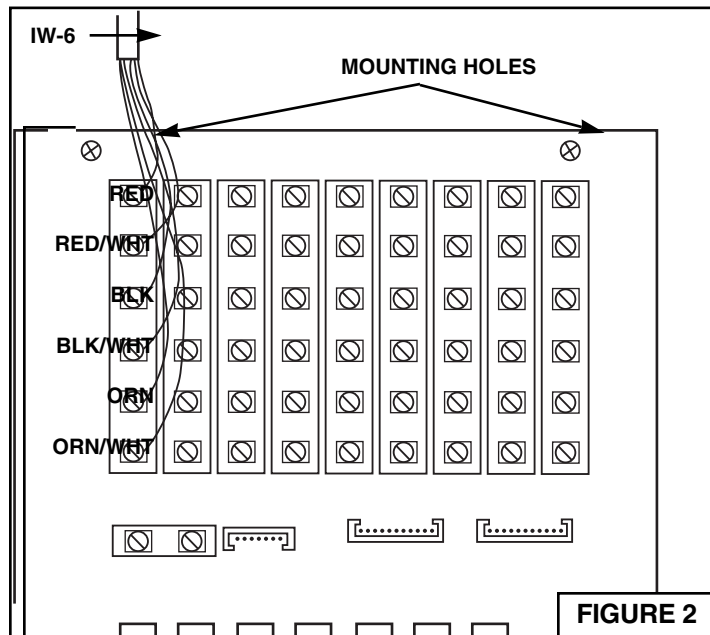

FIGURE 2
2. Refer to Figure 2. Connect the IW-6 cable from each remote to the appropriate set of terminal screws at the master station's terminal board. When connecting the cable to the terminal board, be sure to observe the matching of all color codes.